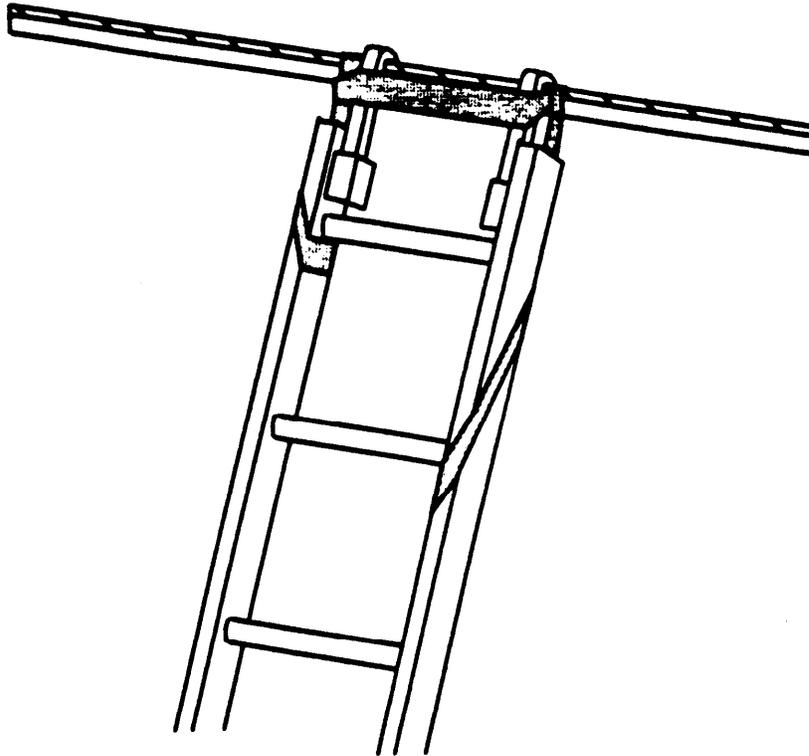

Fig. 7 - Placing the Top-Laddermate on Ladder With Hooks ON Strand
8.03 Securing The Ladder To Suspension Strand - With Hooks *On* Strand (Fig. 7)